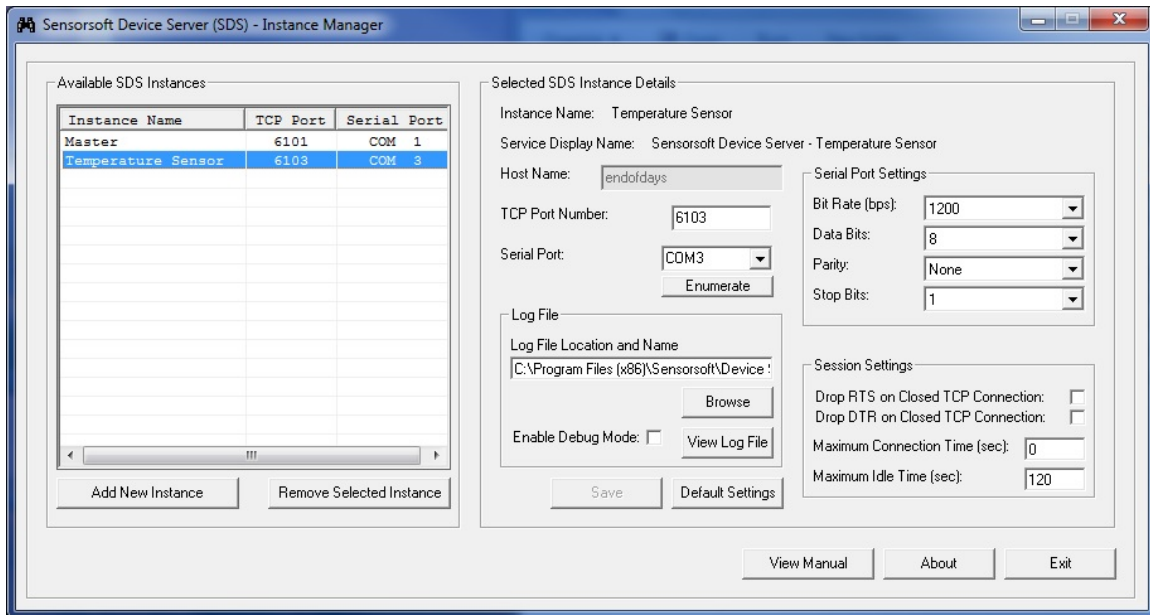

Figure 6
1. Select the instance you would like to remove by clicking on its instance name listed in the dialog “Available SDS Instances” located on the left half of the SDS Instance Manager app as shown in Figure 6. In this example we are going to remove the SDS instance, “Temperature Sensor”.